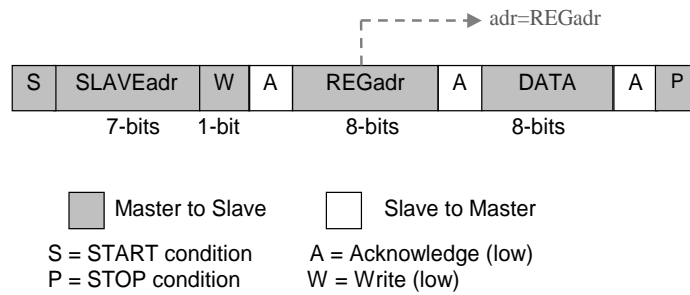
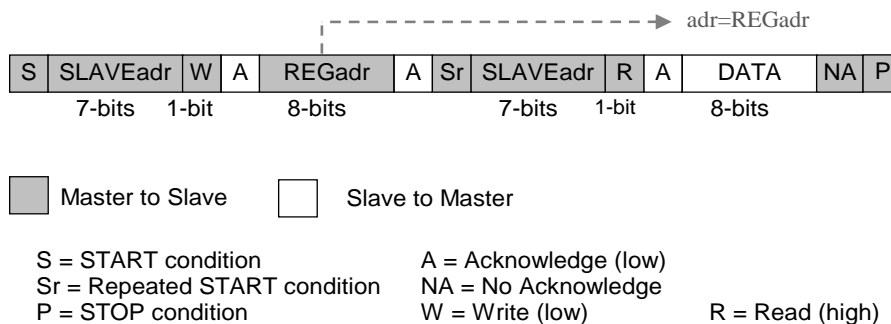

Figure 47: I²C Byte Write (SDA Line)
Figure 49: I²C Byte Read (SDA Line)
The I²C bus is monitored for a valid slave address whenever the interface is enabled. It responds immediately when it receives its own slave address. The acknowledge is done by pulling the SDA line low during the following clock cycle (white blocks marked with A in Figure 47 and Figure 49).
The protocol for a register write from master to slave consists of a START condition, a slave address with read/write bit, and the eight-bit register address followed by eight bits of data, terminated by a STOP condition. DA9092 responds to all bytes with acknowledge (A), see Figure 47.
When the host reads data from a register, it first has to write to DA9092 with the target register address and then read from DA9092 with a repeated START, or alternatively a second START, condition. After receiving the data, the host sends no acknowledge (NA) and terminates the transmission with a STOP condition, see Figure 49.